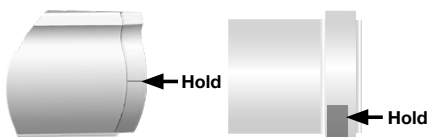

Fig. 1
1. Press and hold the program button on the headrail/motor end, the LED will flash green then amber (about 7 seconds). When the shade jogs once, release the button and the LED will turn solid amber and turn off. The motor is now ready to be associated to a new remote. (Fig. 1)